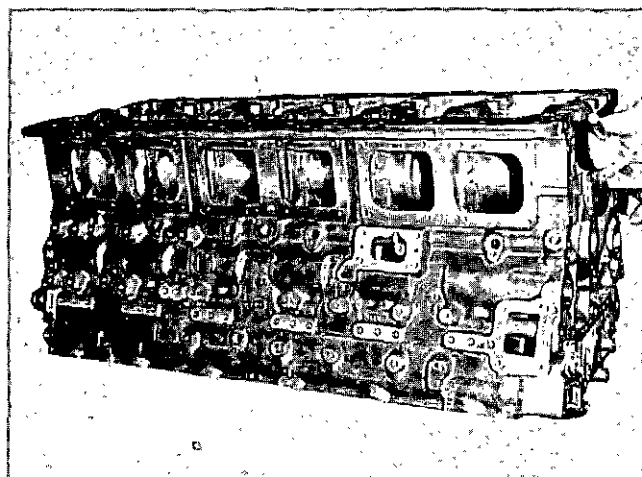

Fig. 1-1-12, V40104. Checking main bearing bore alignment
3. Check bore alignment with ST-1048 (Fig. 1-1-12) or ST-1177-15; bore is 6.0950 to 6.0960 inches [176.5300 to 176.6840 mm]. This closely ground checking ring will pass through all bores unless caps are not tightened to proper tension, burrs, etc., have not been removed, or caps are distorted. For installation of ST-1177 refer to Main Bearing Bore Reaming, Page 1-1-9.